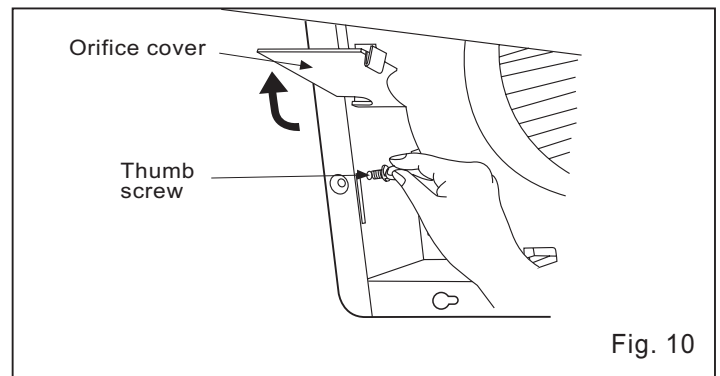

Fig. 10
6. Open the orifice cover, secure the fan body to adaptor by using thumb screw. (Fig.10)
5. Secure the adaptor and fan body by using thumb screw. (Fig.10)